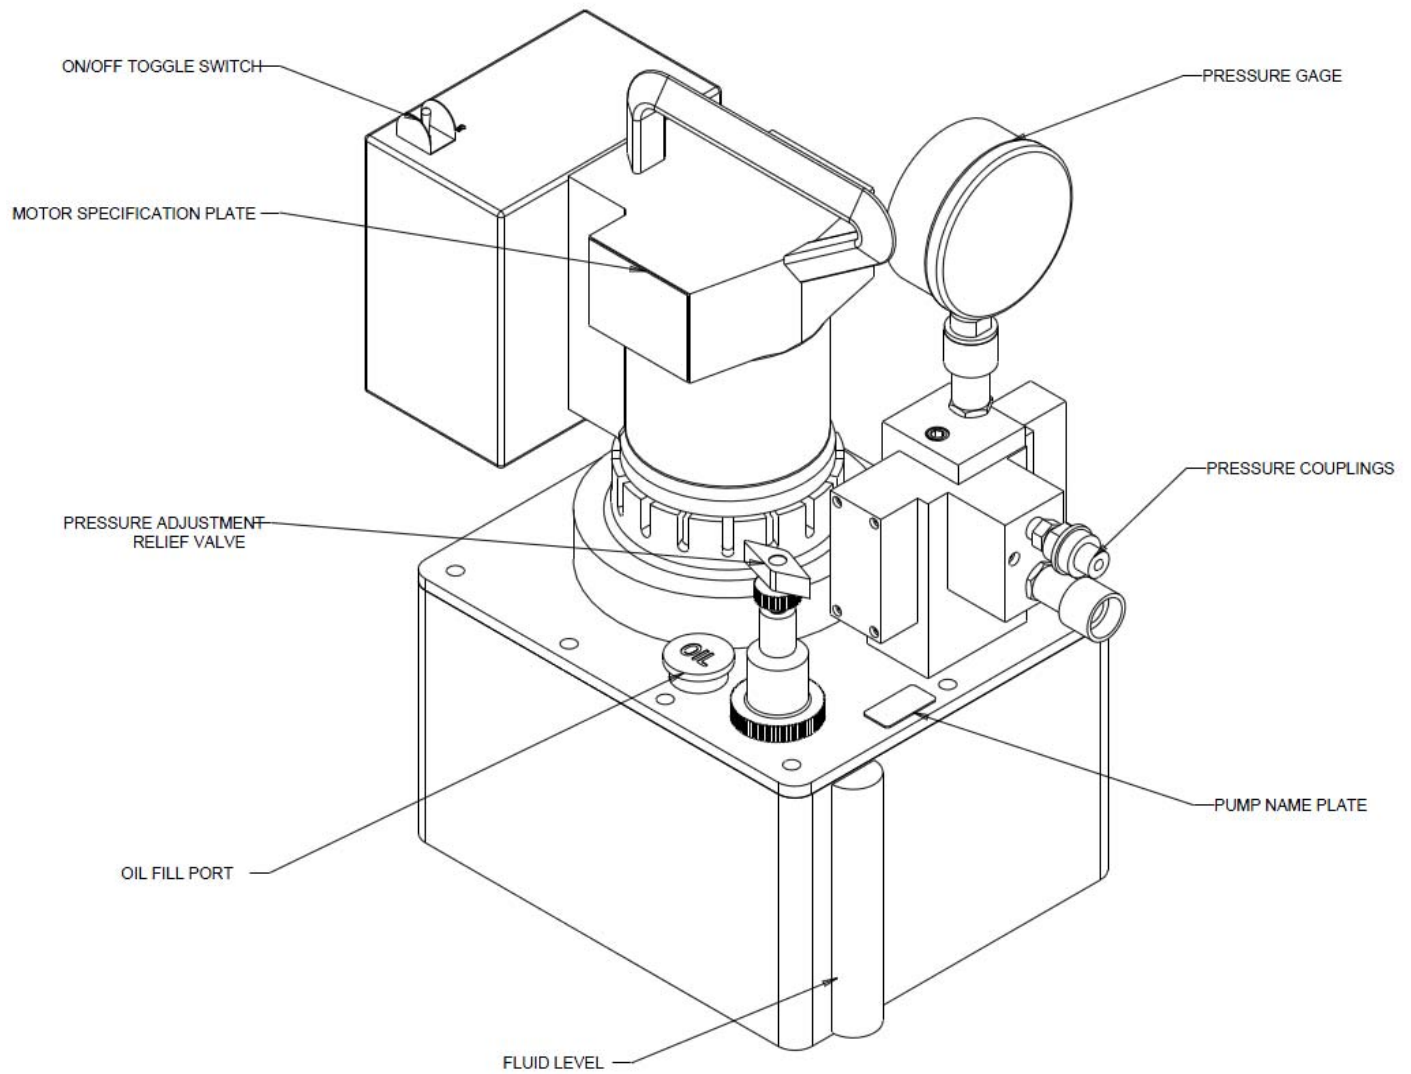

Figure 11 Electric Pump
2. Locate the specification plate on the pump to ensure the proper electrical connection. Having the proper current will protect against dangerous overloading and motor burnout. See Figure 11 for location of specification plate.
2. Place the on/off toggle switch (Figure 11) to the on position and the rocker switch on the control pendant to the OFF position.